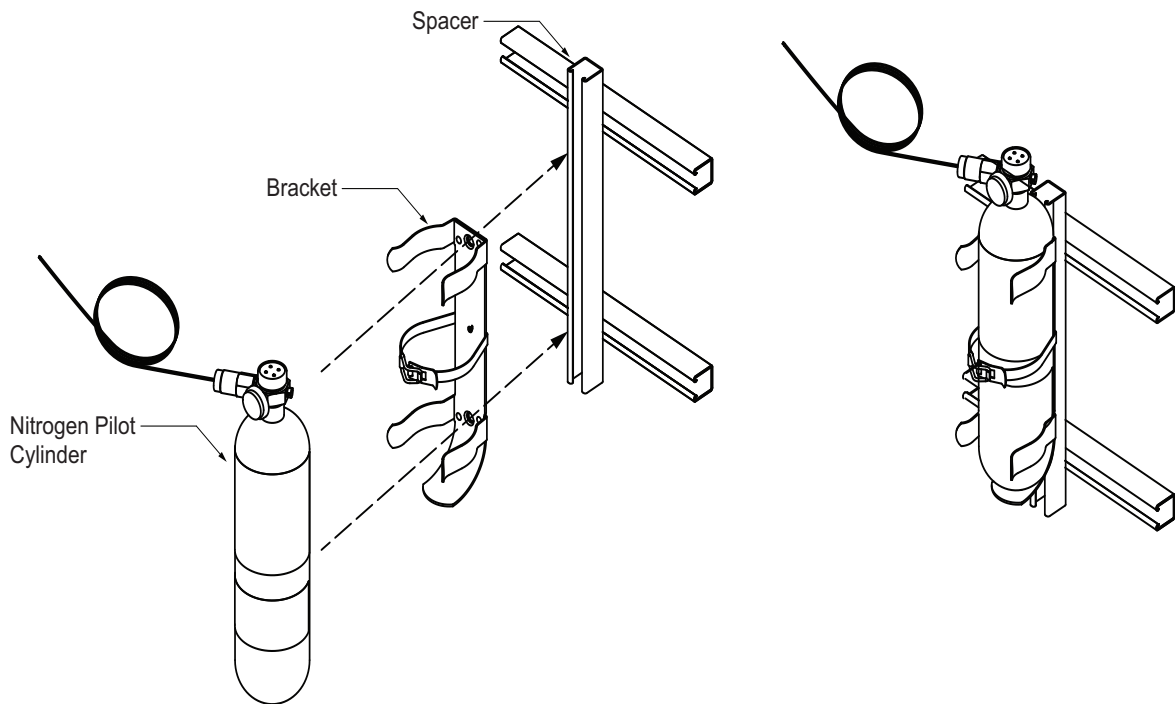

Figure 9. Nitrogen Pilot Cylinder with Bracket and Spacer
**Note:** If the discharge port is too close to a wall or obstruction, install the Nitrogen pilot cylinder bracket using a spacer such as a Unistrut channel setup as shown in Figure 9. One section of Unistrut may not create enough space. Ensure the spacer is structurally sound and can support the weight of the components.